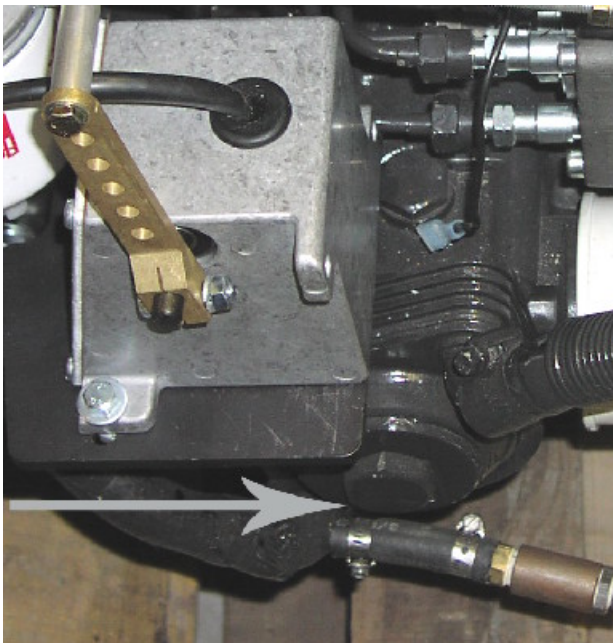

Figure 5 – Slide actuator in direction of arrow to align with the right edge of the bracket as shown.
Place an M6 Flatwasher (13a) on each of the M6 x 25 bolts (10). Position the actuator on top of the bracket so that the bolt-holes are aligned. See Figure 5. Place the bolts through the actuator and bracket. Put an M6 Lockwasher (12) and M6 Nut (11a) on each bolt and hand-tighten. Again, the holes on the bracket are slotted so that the actuator can be positioned for optimum performance. Slide the actuator towards the Run/Stop Lever until it is flush with the rightmost edge of the Bracket (1). See Figure 5. Check that there is sufficient clearance between the actuator and its surrounding environment. Tighten the actuator mounting bolts (10) to 120 in. lb. Place Actuator Lever (9) on the actuator shaft but do not tighten at this time.